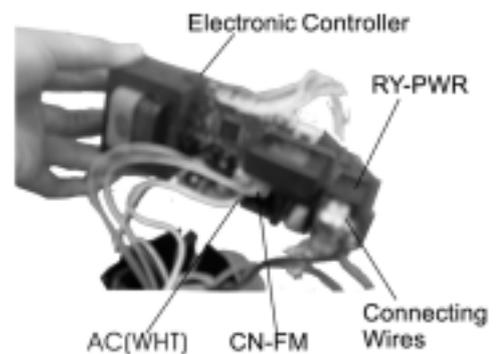

Fig 4
5. Releasing the CN-FM connector and AC(WHT) wire and two connecting wires on RY-PWR and the electronic controller can be replaced. (**Fig 4**)